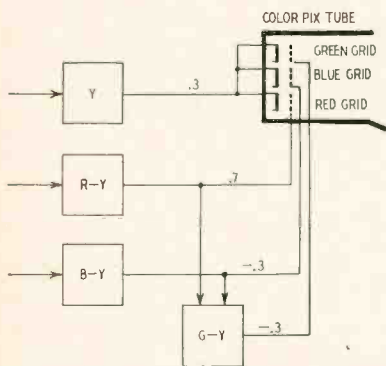
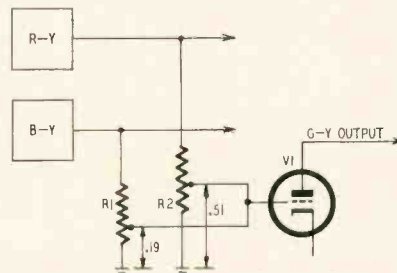

Fig. 1—A simple matrix arrangement. The cathode and grid signal voltages on color tube reproduce saturated red.
Fig. 2—Layout of the G-Y matrix.
A MATRIX is a very simple device, and its operation can be easily understood if a person goes at it right. Consider the R-Y B-Y matrix system (Fig. 1) which makes extensive use of the color picture tube as a matrix.
4. NOTE CAREFULLY: If we turn on the color killer switch, only Y remains at the cathodes (Fig. 1); there is no output to the red, green and blue grids. Now the cathodes are driving the red, blue and green guns (in balanced fashion) and a 30% gray is seen on the screen of the color picture tube instead of a saturated red. This is compatibility.
Fig. 1 shows that the outputs from the R-Y and B-Y detectors are applied to the G-Y matrix as well as to the grids of the color picture tube. The principle of the G-Y matrix is shown in Fig. 2. Resistor attenuators R1 and R2 apply 0.51(R-Y) to the grid of V1, and 0.19(B-Y) to the grid of V1. The function of V1 is to make the signal negative instead of positive. In passing through a stage of amplification, a positive-going signal is converted to a negative-going signal. In other words, R1, R2 and V1 perform the operation:
The Y signal is applied directly to the cathode of the color picture tube, as seen in Fig. 1. The R - Y signal of 0.7 is applied to the grid of the red gun. The B - Y signal of -0.3 is applied to the grid of the blue gun. The green matrix operates to form a G - Y signal equal to -0.3 from the R - Y and B - Y signals, and this -0.3(G - Y) signal is applied to the green gun, as shown in Fig. 1. The R - Y signal and the Y signal are both positive and add to 100% (fully saturated red). But the B - Y signal has an opposite polarity to the Y signal and cancels so that there is no output from the blue gun. Likewise, the G - Y signal has an opposite polarity to the Y signal and cancels so that there is no output from the green gun. Only the red gun is in operation and a saturated red hue appears on the screen of the color picture tube.
Answer: The understanding of this situation follows from the foregoing points. It is helpful to recognize that G - Y is not transmitted as such (Fig. 1), but is *implicit* in R - Y and B - Y. The G - Y matrix *always* mixes -0.51 R - Y with -0.19 B - Y, no matter what color is being transmitted, and recovers the G - Y signal for any color. For example, the G - Y signal for a saturated green is 41%, for a saturated yellow -11%, for a saturated blue +11%. END